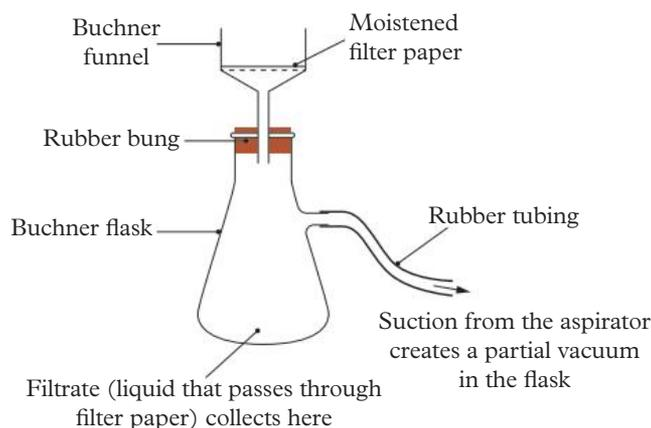

FIGURE 1 Buchner funnel set-up
- 7 Vacuum filter the product using a Buchner funnel, as shown in Figure 1.